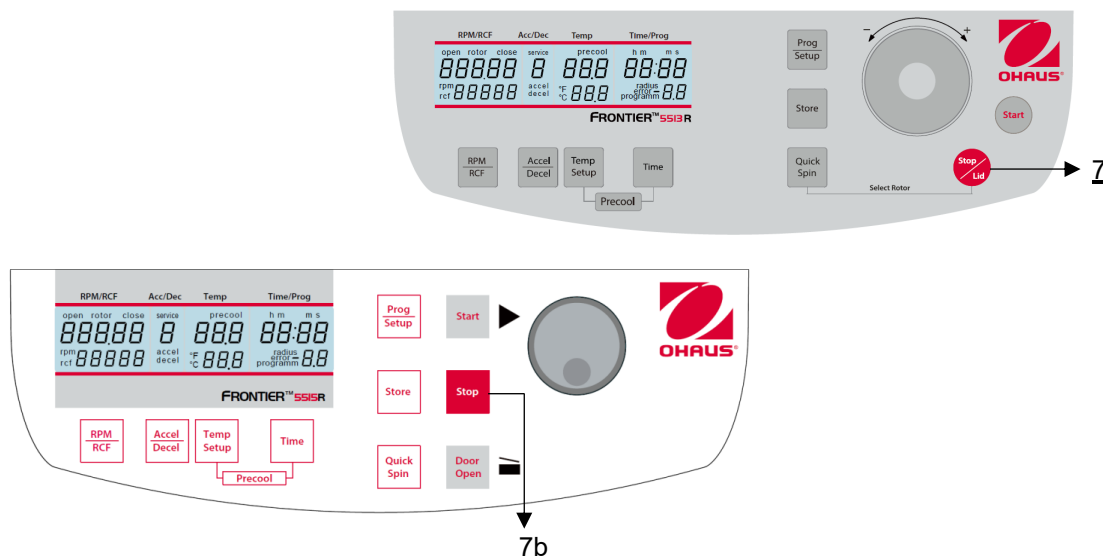

Figure 23
By the **"Stop"** (7b) or **"Stop/Lid"** key (7) (see **Figure 23**) you can interrupt the run at any time. After pressing the key, the centrifuge decelerates with the respective pre-selected intensity down to stand still.